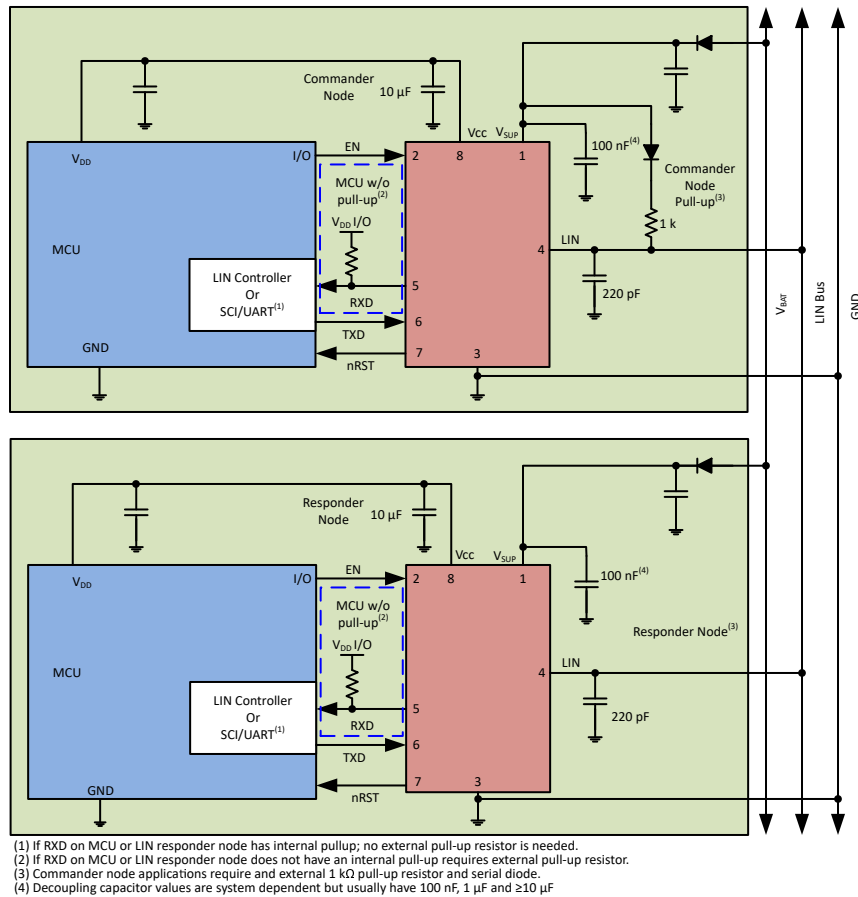

图 10-1. Typical LIN Bus
The device comes with an integrated 45 kΩ pull-up resistor and series diode for responder node applications. For commander node applications, an external 1 kΩ pull-up resistor with series blocking diode can be used. 图 10-1 shows the device being used in both commander and responder node applications.
- **Pin 2 (EN):** EN is an input pin that is used to place the device in a low power sleep mode. If this feature is not used, the pin should be pulled high to the regulated voltage supply of the microprocessor through a series resistor, values between 1 kΩ and 10 kΩ. Additionally, a series resistor may be placed on the pin to limit current on the digital lines in the event of an over-voltage fault.
- **Pin 4 (LIN):** This pin connects to the LIN bus. For responder node applications, a 220 pF capacitor to ground is implemented. For commander node applications, an additional series resistor and blocking diode should be placed between the LIN pin and the VSUP pin. See 图 10-1